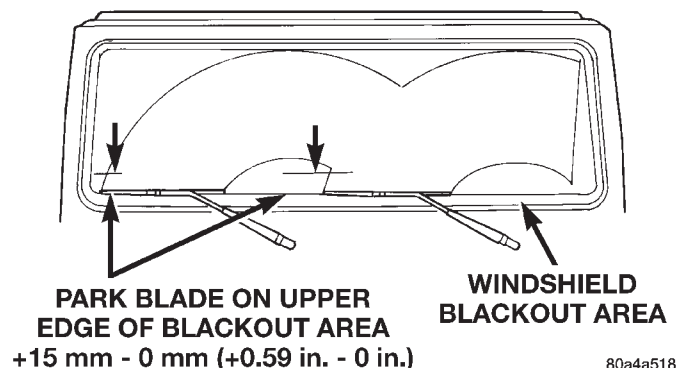

Fig. 8 Front Wiper Arm Installation
(2) Remove the arm from the pivot using a rocking motion.
(3) Install the arm and blade with the wiper motor in the Park position. See the Front Wiper Arm Installation illustration (Fig. 8).